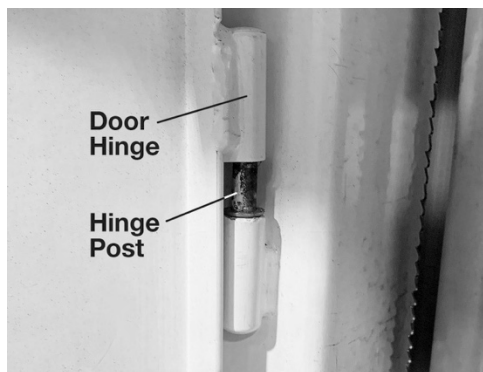

Figure 5-5
1. Align door hinges with hinge posts on band saw frame (see Figure 5-5).